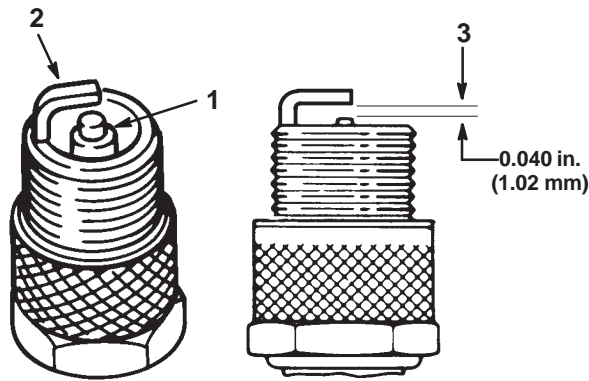

Figure 26
1. Look at the center of the spark plug(s) (Fig. 26). If you see light brown or gray on the insulator, the engine is operating properly. A black coating on the insulator usually means the air cleaner is dirty.
2. Check the gap between the center and side electrodes (Fig. 26). Bend the side electrode (Fig. 26) if the gap is not correct.